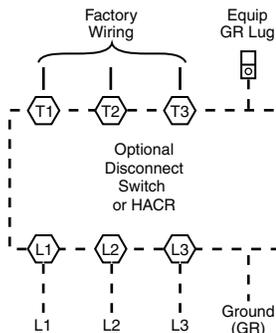

Fig. 53 — Power Wiring Connections
Size wire based on MCA (Minimum Circuit Amps) on the unit informative plate. See Fig. 53 for power wiring connections to the unit power terminal block and equipment ground. Maximum wire size is 2/0 AWG per pole.
3. Install power lines to terminal connections as shown in Fig. 53.